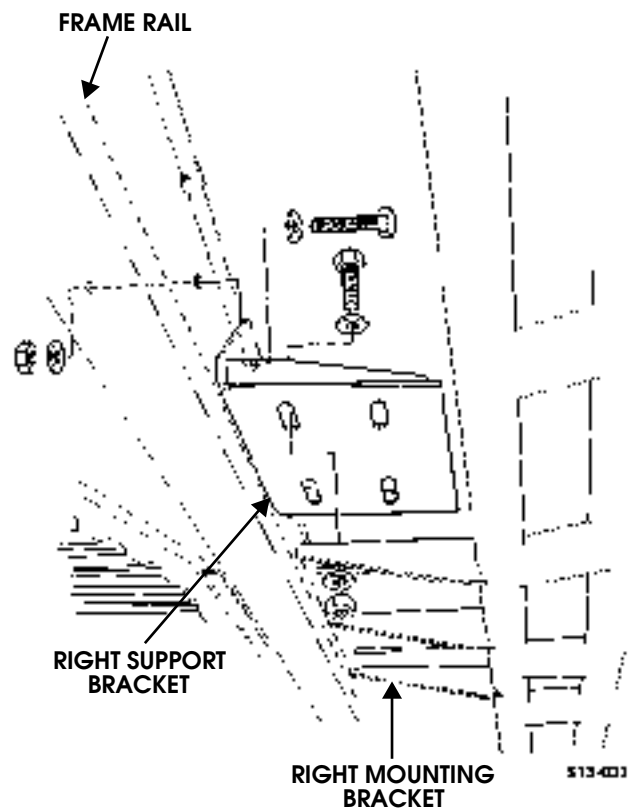

Figure 13-36: Right Support Bracket
4. Remove locknut, washer, capscrew, and washer securing right support bracket to frame rail. Discard locknut (Figure 13-36).
2. Install right support bracket on right mounting bracket with four washers, bolts, washers, and locknuts. Do not tighten locknuts (Figure 13-36).